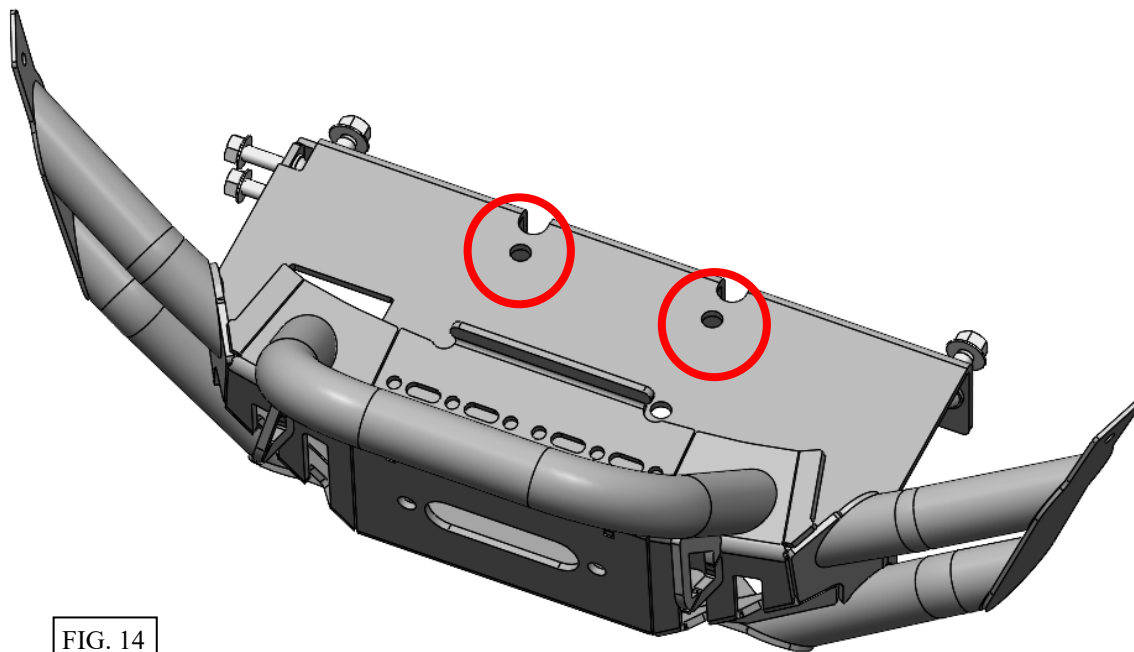

FIG. 14
Note: Two (2) M8 Hex Drive Screws have been provided to be used optionally at the locations shown below to attach a winch to the bumper (Fig. 14).
***It is required to grind down the heads of the two (2) M8 Hex Drive Screws so the bolts that fasten the winch to the bumper do not interfere with the vehicles frame.**